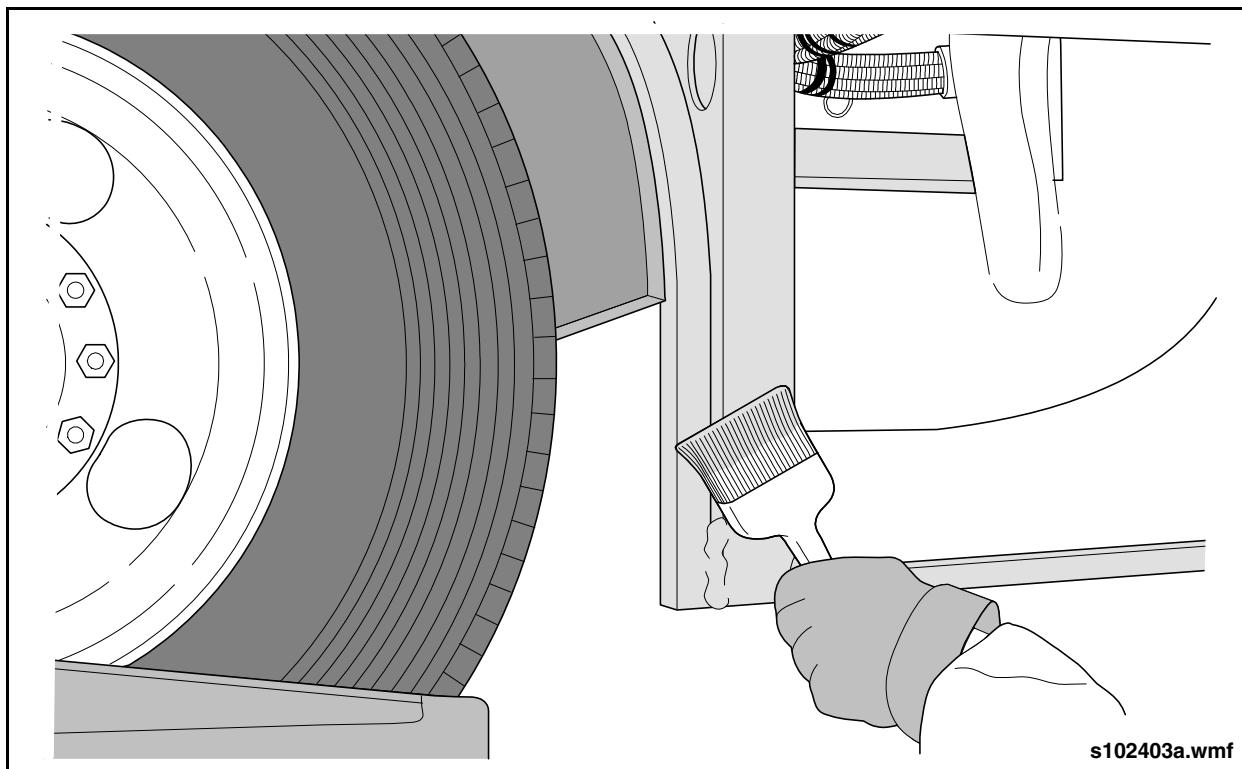

Fig. 11-3: Primer Application
3. Apply primer using a brush or appropriate spraying equipment. Wet film thickness should be 6.5 mils. This will result in a dry film of 3.0 to 4.0 mils. Film thickness is important to ensure adhesion and corrosion protection. See "Fig. 11-3: Primer Application" on page 14.